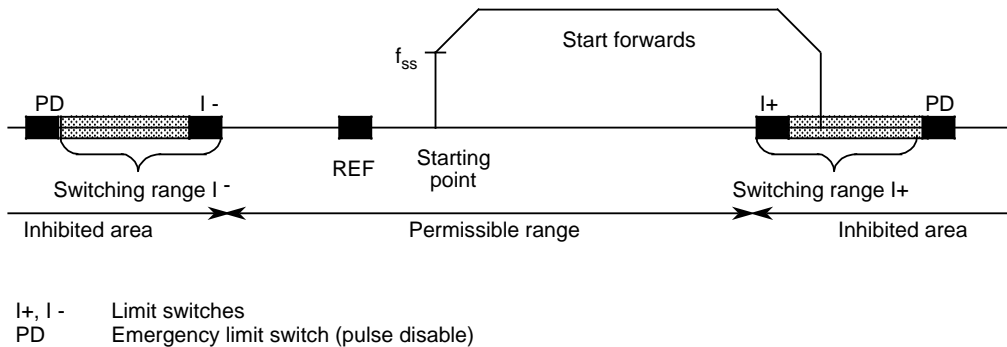

Figure 5-3. Distances Between Limit Switches and Emergency Limit Switches
- Two emergency limit switches, which only respond after a limit switch has responded. The input PD is always "0" active, i.e. this circuit is closed-circuit protected. You can only use NCs as emergency limit switches (PDs) and combinations of emergency limit switches (PDs) must always be connected in series. These switches disable pulse output immediately and they must be connected to the digital input PD of the IP 267. When making these connections, please observe the required clearances between PD and I + and I - (Figure 5-3.).
When a limit switch is operated, the IP 267 aborts the positioning procedures and disables all further jobs with the same direction of approach. The disable is only cancelled when a positioning job is executed in the opposite direction or if "STOP"/"Neutral" is programmed. If the axis does not leave the "inhibited" traversing range during this approach and if the limit switch gives no contact, an approach in the direction of PD would then be possible (Figure 5-3.). To make sure that no positioning job can be started from the "inhibited" range (i.e. between limit switches and emergency limit switches PD) in the direction of PD, the switching range of the limit switches must be as wide as the total inhibited range (Figure 5-3.).